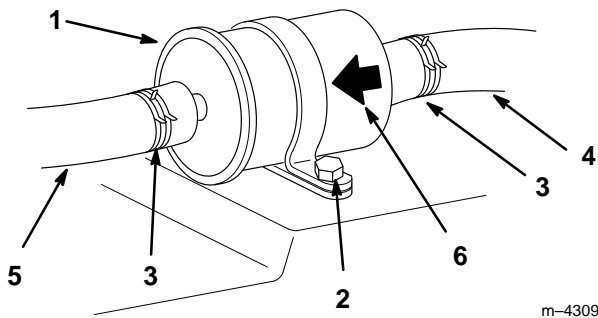

Figure 44
3. Remove the filter mounting bolt and remove the filter (Fig. 44).
4. Squeeze the ends of the hose clamps together and slide away from the filter (Fig. 44). Remove the fuel lines from the filter.
5. Push fuel lines onto the new filter, and slide hose clamps close to the filter (Fig. 44). Make sure the flow direction arrow points toward the engine/fuel pump. Secure filter to chassis with previously removed mounting bolt (Fig. 44).